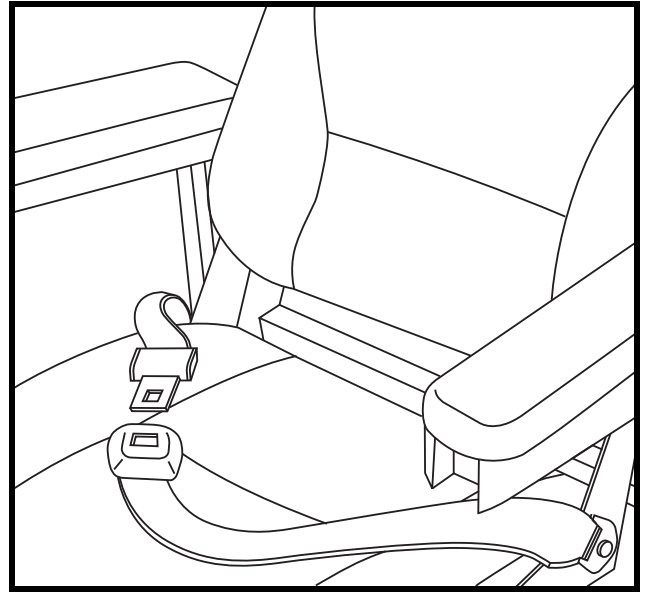

Figure 15. Positioning Belt Adjustment
Your power chair may be equipped with a positioning belt that can be adjusted for operator comfort. See **figure 15**. The positioning belt is designed to support the operator so that he/she does not slide down or forward in the seat. The positioning belt is not designed for use as a restraining device.
1. Once seated, insert the metal tab on one side of the belt into the plastic housing on the opposite side until you hear a click. See **figure 15**.